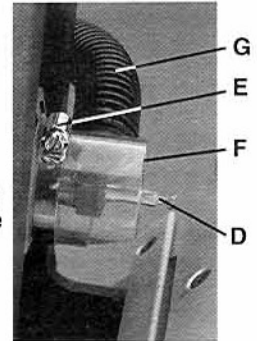

Figure 2
6. Loosen the hex screw (**B**) which locks the **ROUTER** in the **ROUTER SLIDE (C)**. Slide the **ROUTER** into the **ROUTER SLIDE** and tighten the hex screw slightly.
7. Remove the **ROUTER BIT (D)**, **Figure 2**, from the parts bag and insert it into the collet as far as it goes then retract it about 1/16 inch. Use the two wrenches, one to hold the router shaft and the other to tighten the collet securely.
8. Place the **HOSE CLAMP (E)** over the large end of the **ROUTER BIT GUARD (F)**. Place the **GUARD** over the hub on the **ROUTER** and tighten the **HOSE CLAMP**. Push one end of the **VACUUM HOSE (G)** over the 3/4 inch leg of the **ROUTER BIT GUARD**. The other end of the hose should be fed under the **CORNERLOCK 4000** and into a vacuum cleaner hose.